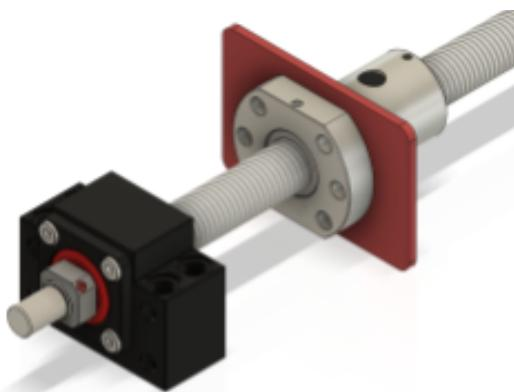

Figure 8.9
8. Place the Ball Screw Face Plate Front directly behind the ball screw nut as shown in Figures 8.9 and 8.10.